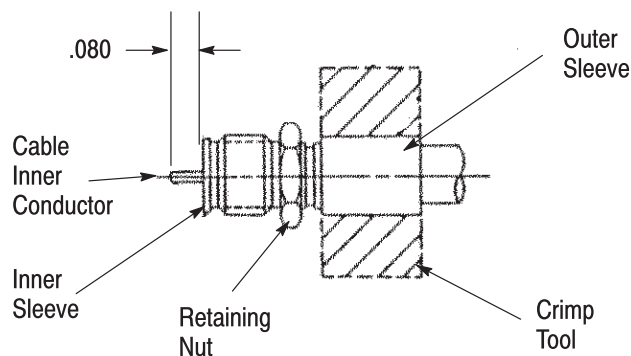

Figure 3
6. Hold the cable firmly seated and crimp the outer sleeve in place. Refer to Figure 3.